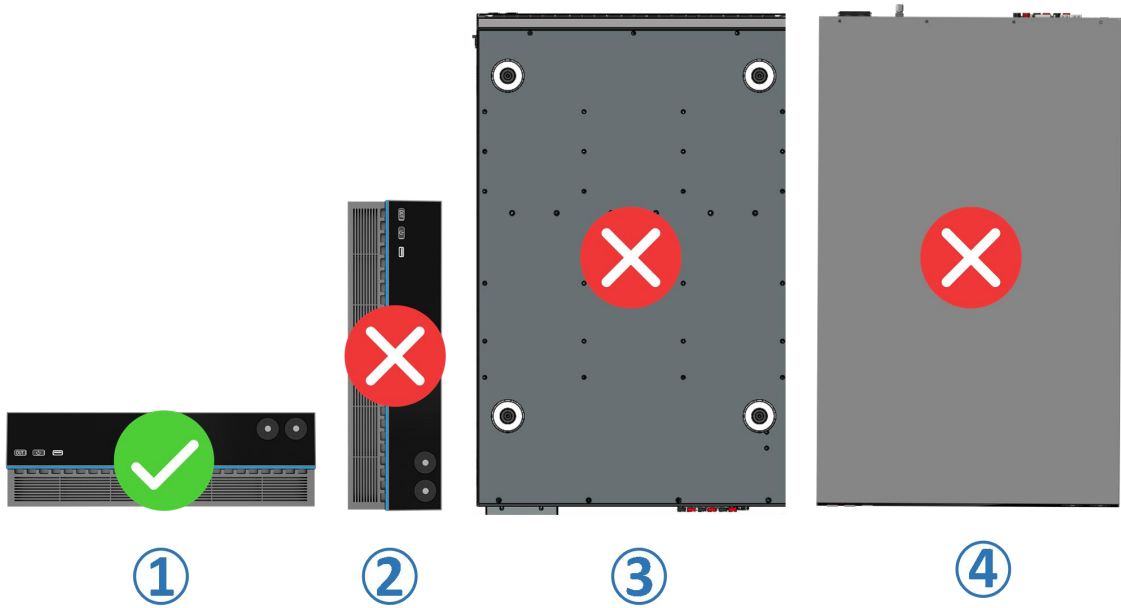

Figure 14 Product Placement Diagram
The only correct placement method for the Cortex AC Series Products is shown in Figure 14 center ① position; no other placement methods are permitted, and floor-standing installation is not allowed.